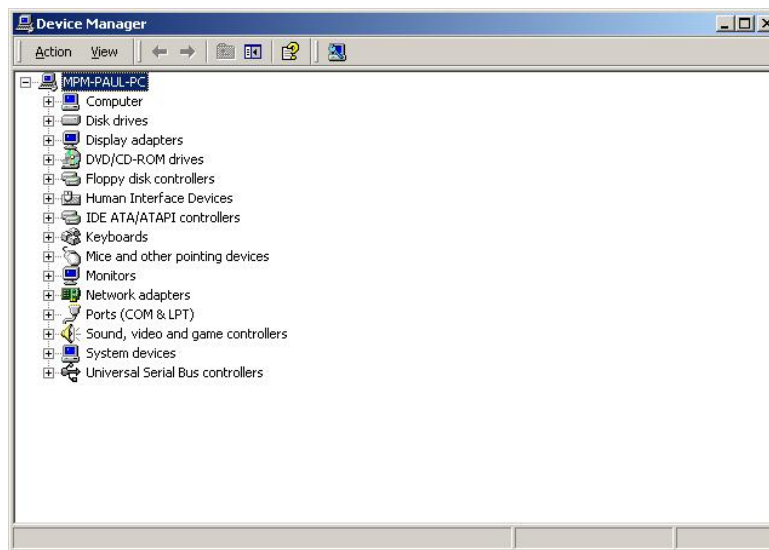

Figure 7-19: Device Manager List
Step 4: A list of system hardware devices appears (Figure 7-19).